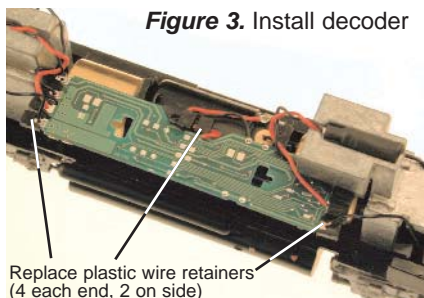

Figure 3. Install decoder
4. The DH163A0 decoder is installed in the same orientation as the factory board. There is yellow tape on the bottom side of the decoder for insulation. Connect the wires to the decoder in the same configuration as the factory board using the wire retainers. (*Figure 3*) Slide the decoder over the frame clips to hold it in place on the frame.